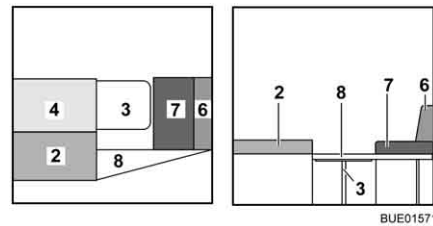

Fig. 154 During conversion
- Place the back cushion (Fig. 154,4) next to the seat cushion (Fig. 154,2).
- Unfold the support of the bed extension (Fig. 154,8) and hook the bed extension into the holders on the bench seats.